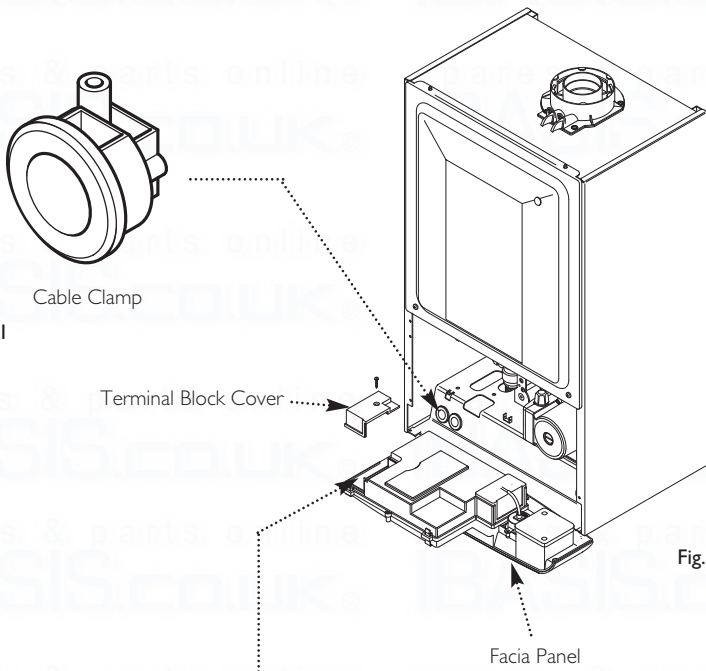

Fig. 30
2. Completely undo the screws securing the fascia panel and hinge it down (Fig. 30).
3. Undo the terminal block cover securing screw and remove the cover (Fig. 30).